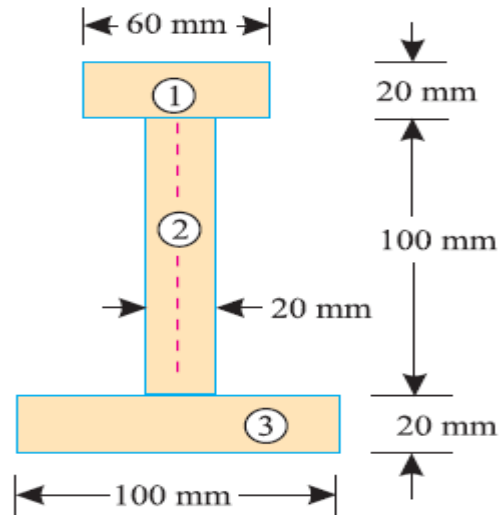

Fig.23
5. An I-section is made up of three rectangles as shown in Fig. 23. Find the Moment of inertia of the section about the horizontal axis passing through the center of gravity of the section. [10 M]